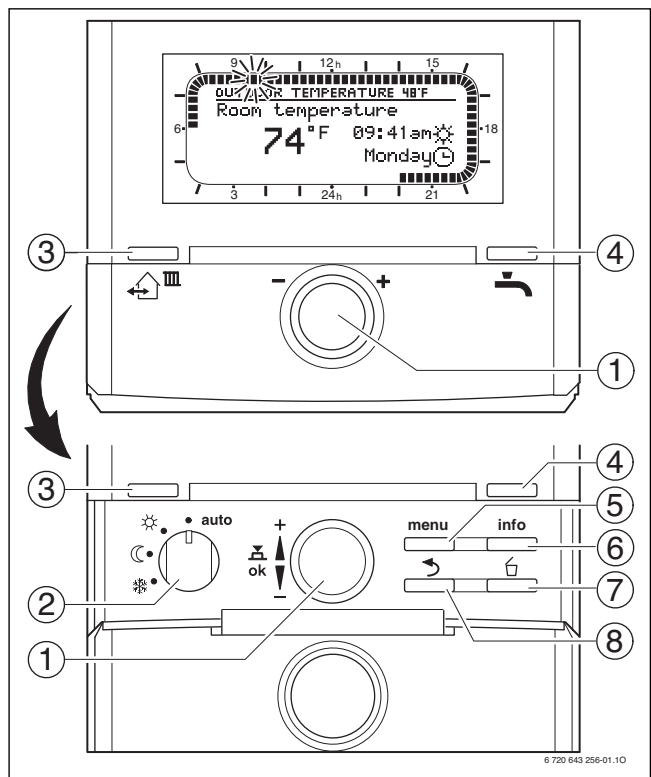

Fig. 63 FW 200 heating control with front flap closed / flap opened
**Legend to Fig. 63:**
In the following description, at any time, pressing the menu button (→ Fig. 63, [3]) will bring you back to the standard display.
- ▶ Turn the dial (→ Fig. 63, [1]) to adjust time and date.
- ▶ Press and hold the menu button (→ Fig. 63, [5]) until this prompt disappears.
- ▶ Press the menu button (→ Fig. 63, [5]).
- ▶ Turn the dial (→ Fig. 63, [1]) counter-clockwise until **General settings** is highlighted.
- By turning the selector (→ Fig. 63, [2]) to the comfort symbol (☼).
- ▶ Press the menu button (→ Fig. 63, [3]).